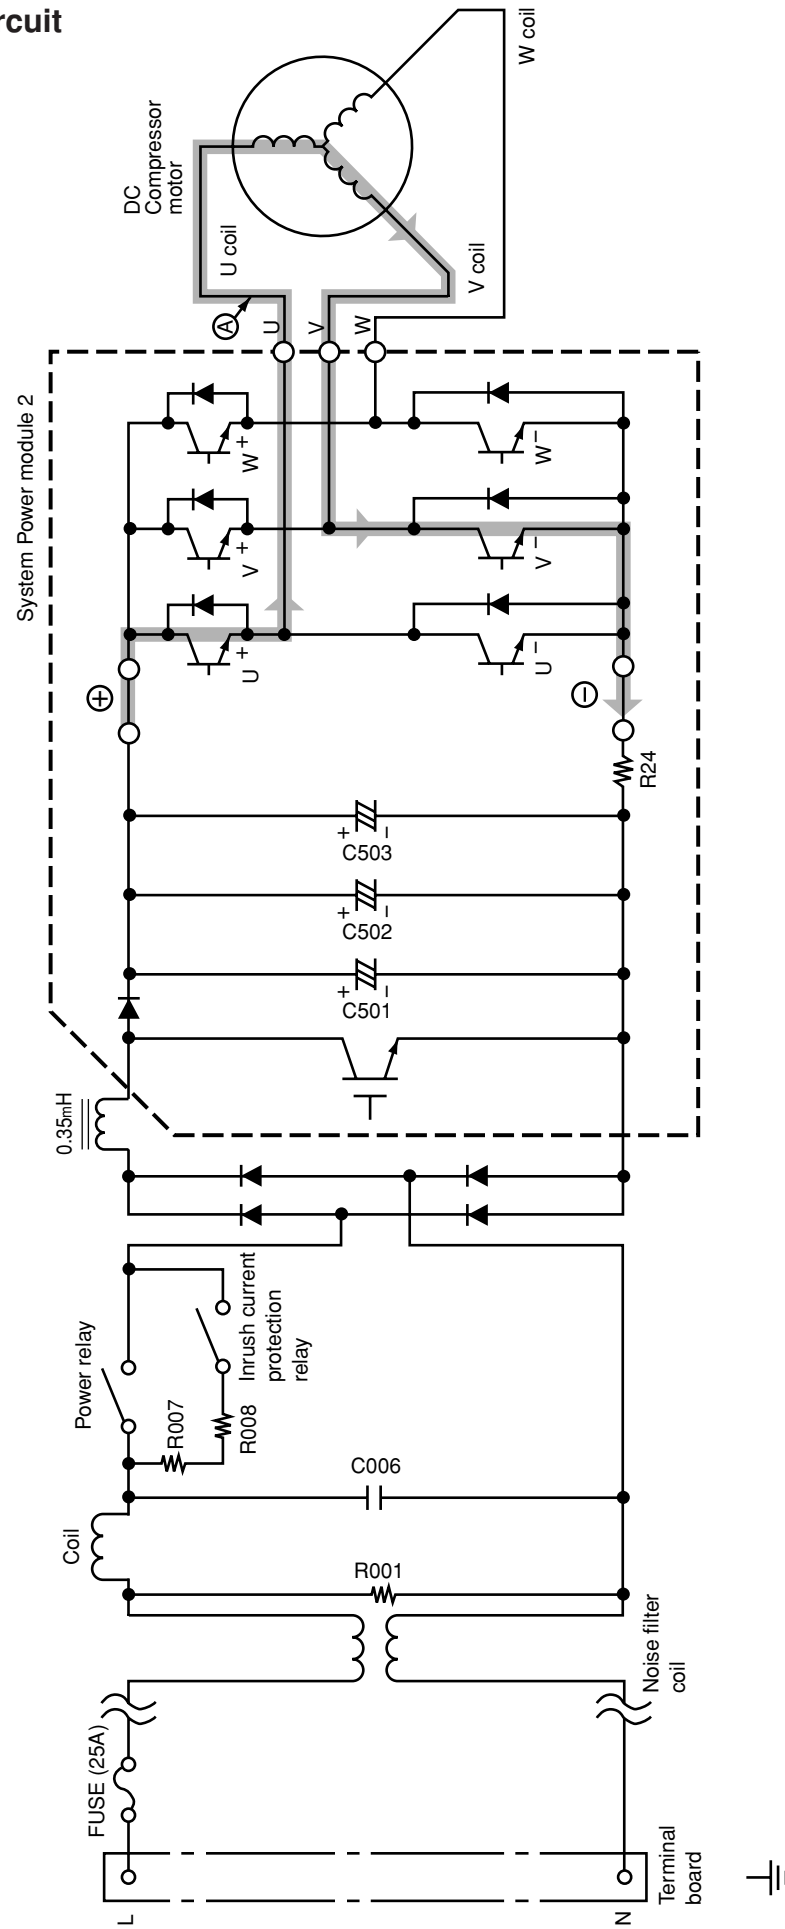
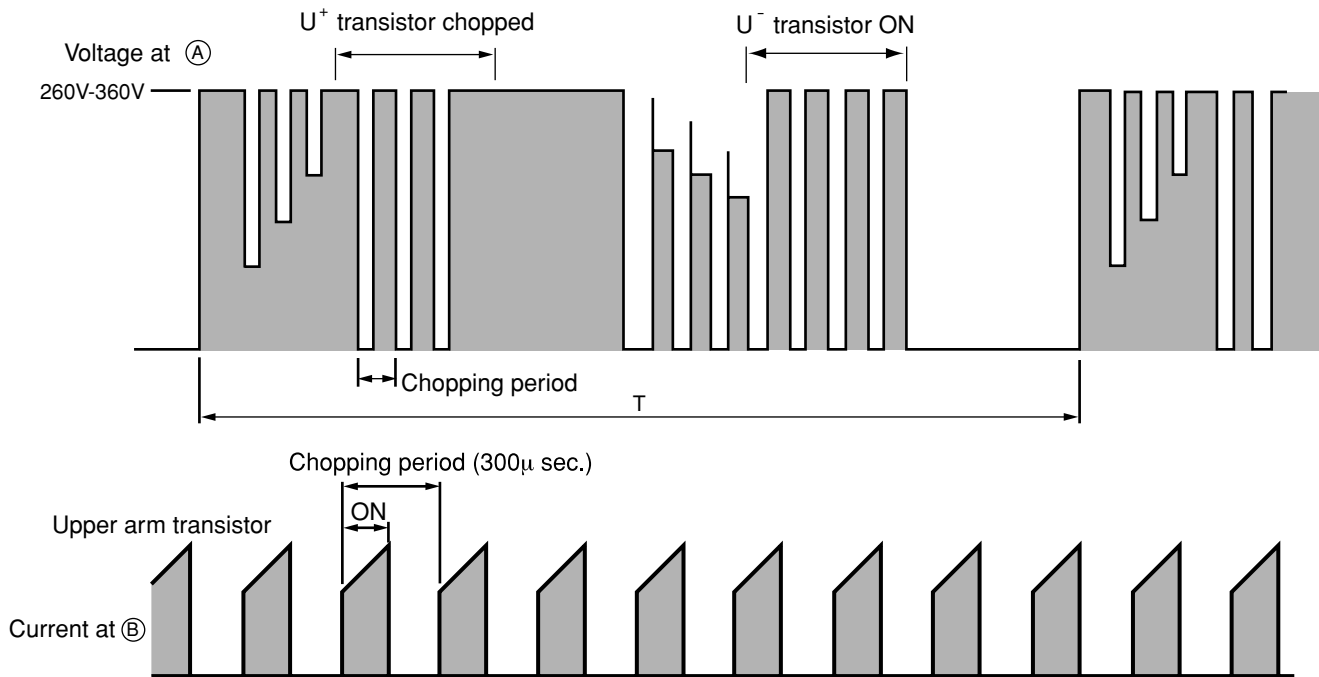

Fig. 3-1 Power module circuit (U⁺ is ON, V⁻ is ON)
Fig. 3-3 Voltage waveform at each point
- Fig. 3-1 shows the system power module and its peripheral circuit. The three transistors on the positive ⊕ side are called the upper arm, and the three transistors on the negative ⊖ side are called the lower arm.
- Fig. 3-3 shows voltage waveform at each point shown in Figs. 3-1 and 3-4. First half of upper arm is chopper, second half is ON, and first half of lower arm is chopper, second half is ON.
- When power is supplied U⁺ → U⁻, because of that U⁺ is chopped, current flows as shown below; (B)
- When U⁺ transistor is ON: U⁺ transistor → U coil → V coil → V⁻ transistor → DC current detection resistor → Point (B) (Fig. 3-1)
- Since current flows at point ② only when U⁺ transistor is ON, the current waveform at point ② becomes intermittent waveform as shown in Fig. 3-3. Since current at point ② is approximately proportional to the input current of the air conditioner, input current is controlled by using DC current (Id) detection resistor.